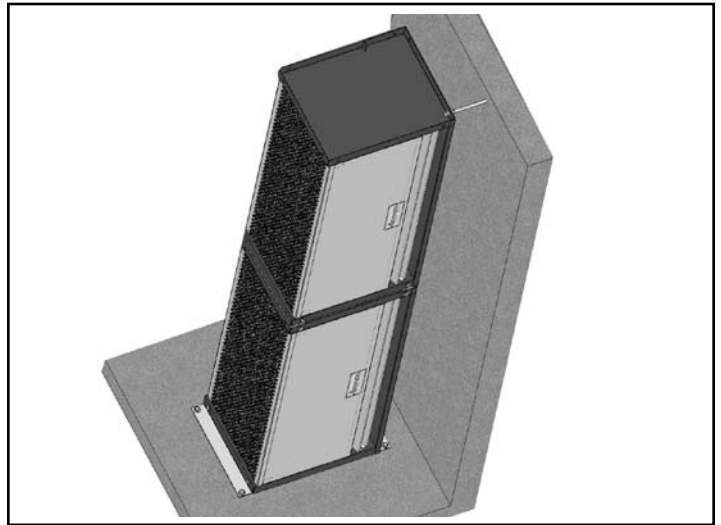

FIGURE 7 - Increased Stability
E. To improve the stability of the installation, it is required that the top of the unit be attached to the wall. A common approach is to attach a minimum length of 3/8" threaded rod through one of the open mounting holes in the top endplate and affix the other end of the rod to the wall. **See Figure 7**.